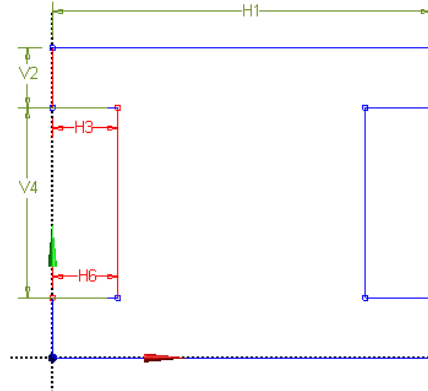

Figure 3-31 Placing dimension on sketch
2. If you want to place the over-constrained dimension, place it on the sketch, as shown in Figure 3-31.